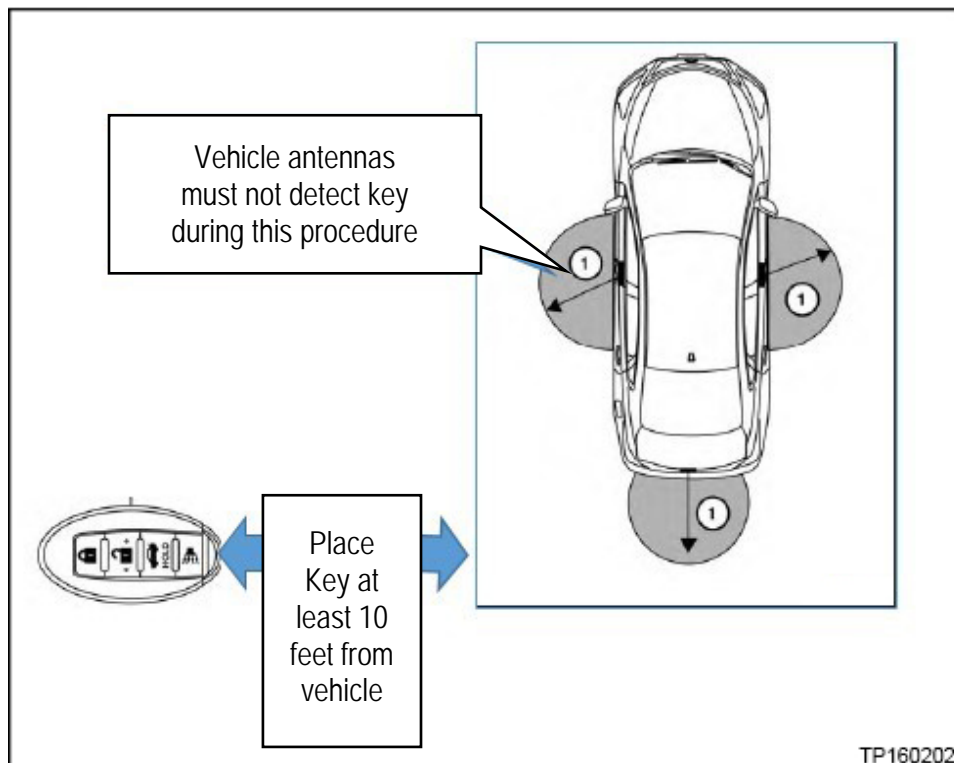

Figure 2
5. Place the Intelligent Key outside the vehicle, a **minimum distance of 10 feet away** to avoid detection of the Intelligent Key by the vehicle. See Figure 2 below.